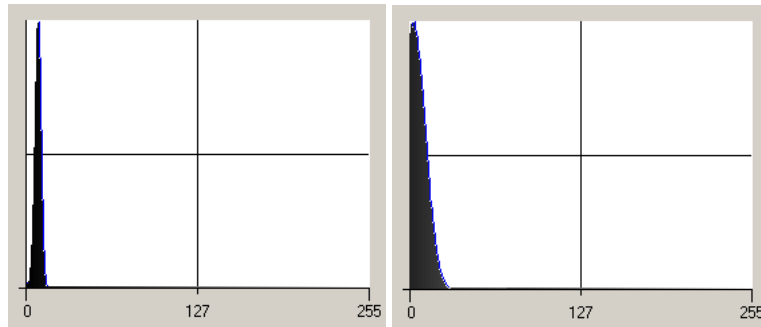

Figure 6.14: Histogram for calibration: a) low gain, b) high gain
2. Make sure that HighGain is turned off and change the LowGain offset voltage such that the black level peak displays as in Fig. 6.14 a.
3. Do the same for HighGain: Activate HighGain via the check box and change the offset such that the black level distribution looks like Fig. 6.14 b.